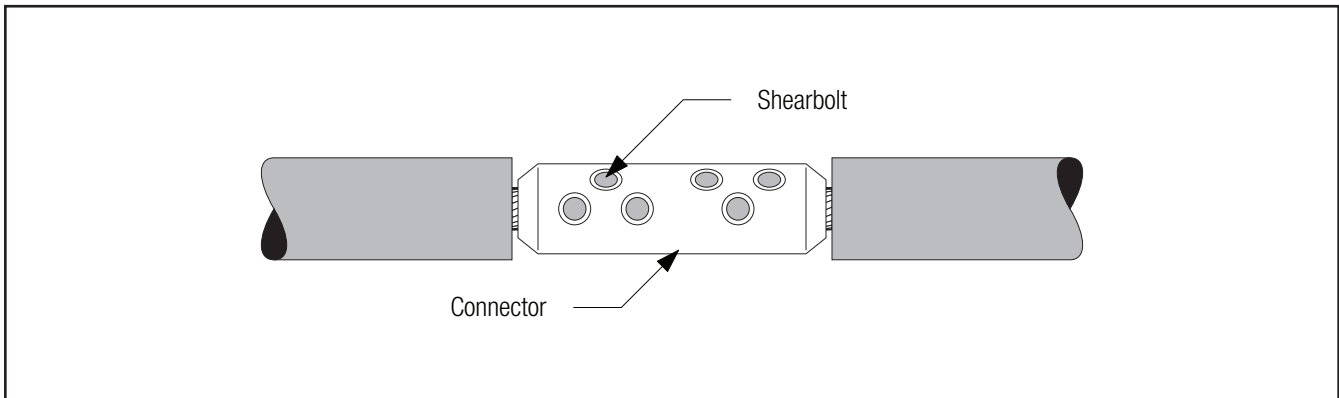

Figure 13
- 4.2** Install 3M™ Shearbolt Connector QCI 350-750 or QCI 500-1000 according to the instructions included with the connector (*Figure 13*).